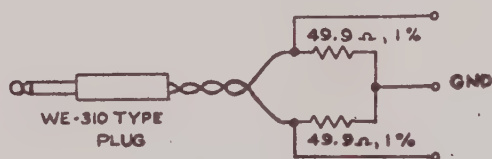

Figure 1: Tapped Termination (1 required)
- g. Tapped Termination, 1 each, per Figure 1
- b. Plug the test termination shown in Figure 1 into one of the four output jacks of the Test Set.
- c. Connect an X10 Oscilloscope probe between the GRD terminal and either one of the remaining terminals of the Tapped Termination (Figure 1).
- b. Connect the cord of the test circuit shown in Figure 1 to one of the DS-1 Output jacks of the Test Set, and insert the three Terminations (Figure 4) into the remaining output jacks. Attach the GRD lead of the X10 probe to the GRD, center, tap of the test circuit and the probe tip to either of the outer taps.